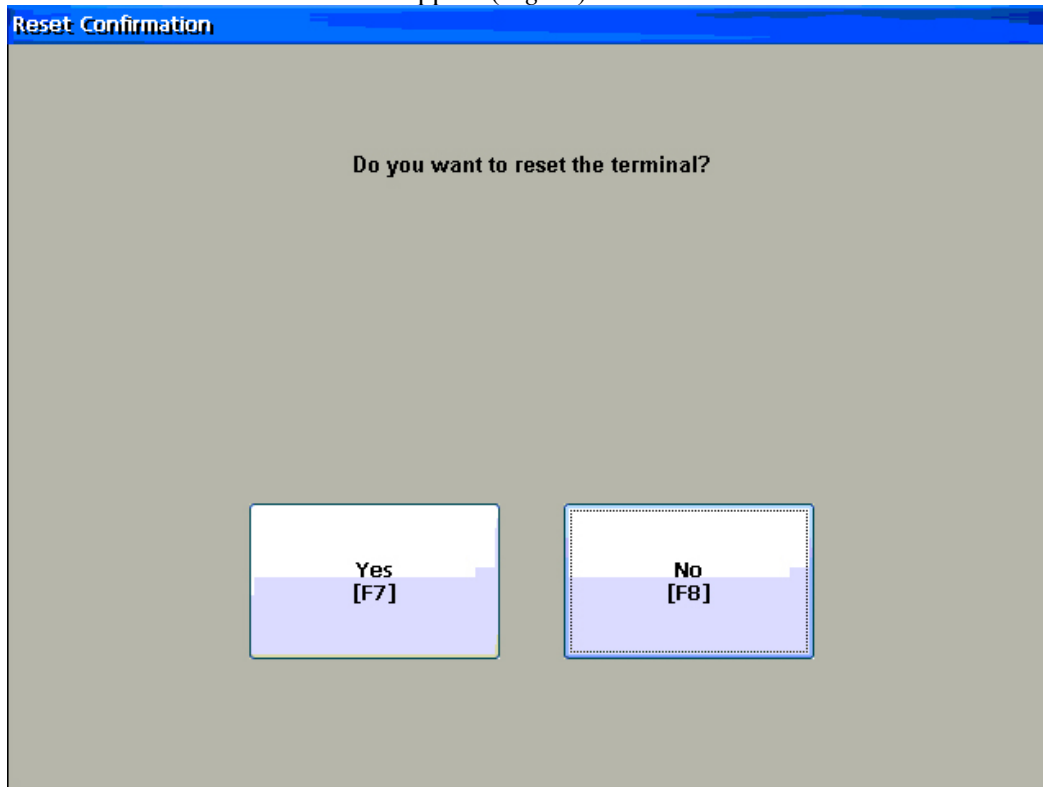

Fig 32
57. A Reset Confirmation screen will appear (Fig 32).